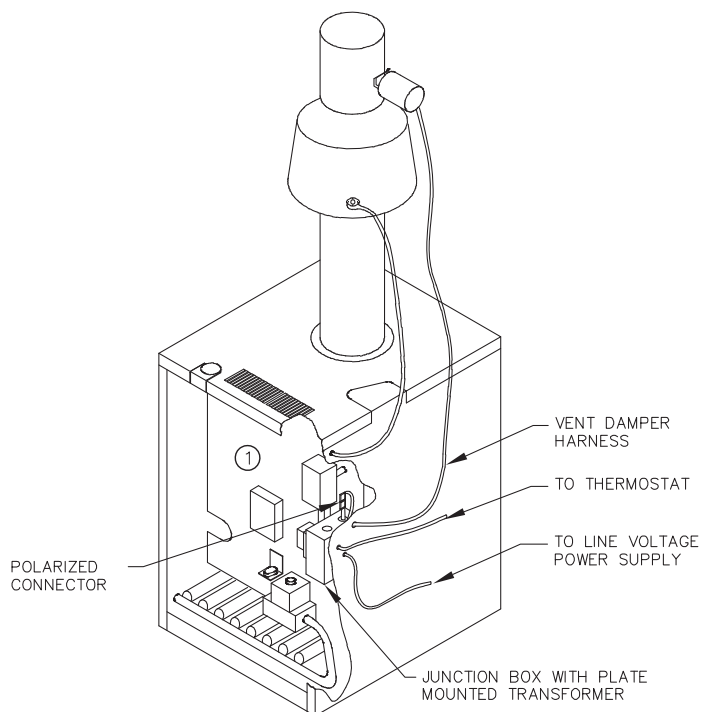
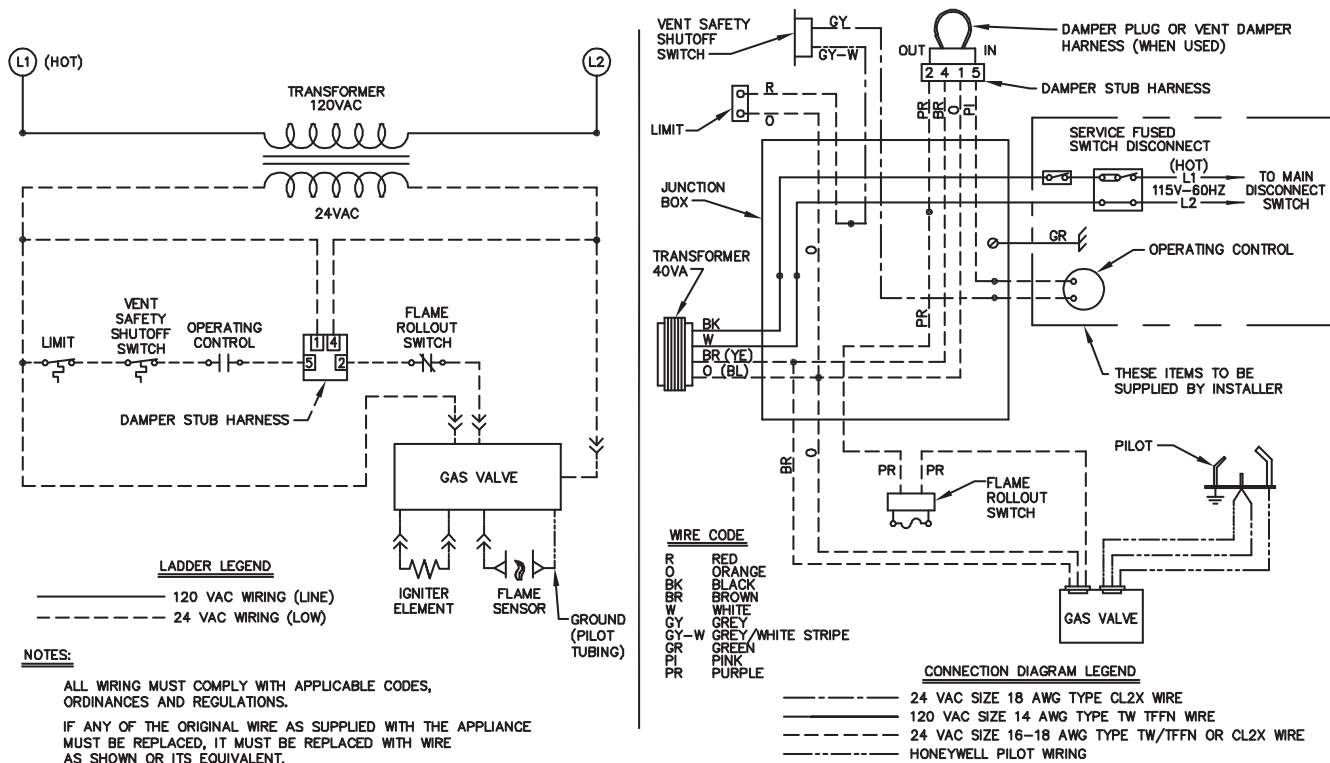

Figure 6.1: Wiring Details
Figure 6.4: Connection and Schematic Diagram, Intermittent Ignition, Natural Gas
- a. Orient the vent damper operator to facilitate connection of the vent damper harness to knockout on right side of boiler. See Figure 6.1.
7. Support horizontal portions of the venting system to prevent sagging by use of metal strapping or equivalent means. Locate supports at no more than four (4) foot (122 cm) intervals, or in accordance with vent system manufacturer's installation instructions.
1. See Figure 6.1 for location of wiring and controls. use Figures 6.4 - 6.6 to connect the boiler to a power supply and then connect components to the boiler.
3. Connect the vent damper harness to the polarized connector in the boiler vestibule as shown in Figure 6.1.
12. Use the sequence descriptions in Figures 6.4, 6.5 and 6.6 in Section 6 (Electrical) to follow light-off and shutdown sequences and to assist in diagnosing problems. If the boiler does not function properly, consult Section 9, Troubleshooting.